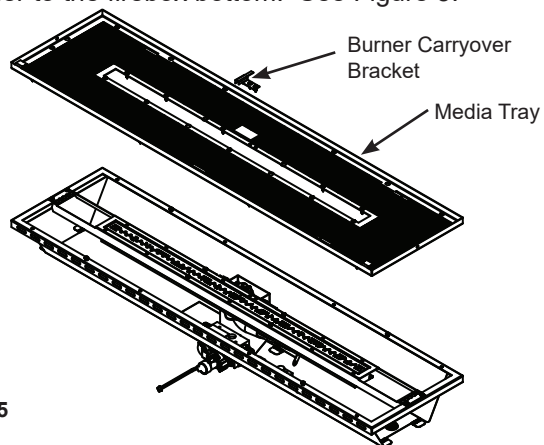

Figure 5
7. Remove the burner carryover bracket by removing the 2 screws that attach this part to the engine assembly. Save the screws and carryover bracket. Remove the media tray by removing the screws from the the engine assembly. Do not remove the 4 screws that hold the burner to the firebox bottom. See Figure 5.